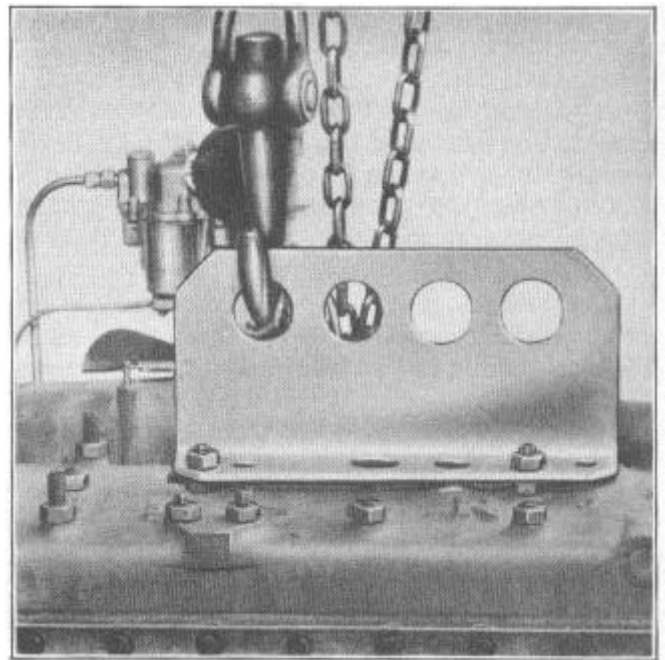

FIGURE 21
9. Attach Motor Lift Bracket J-2782 and raise engine up and out of chassis, Figure 21.